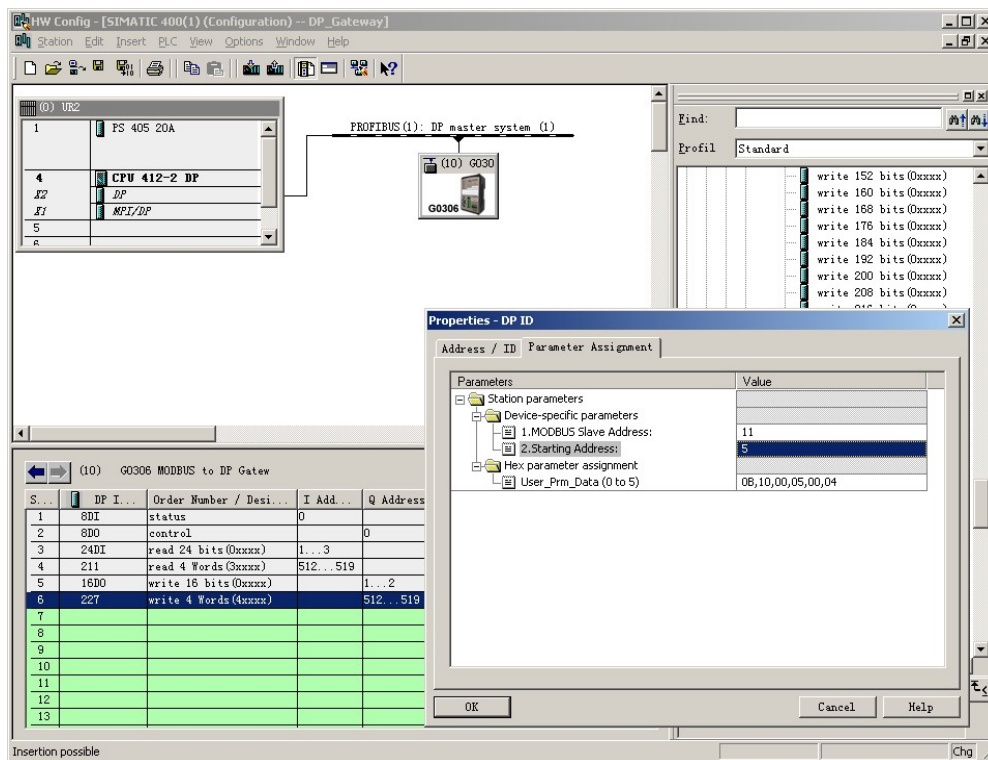

Figure 26 Configure user parameters of the "write 4 Words(4xxxx)" module
**b) Configure the user parameters of the "write 4 Words(4xxxx)" module, as shown in Figure 26:**
"1.MODBUS Slave Address:" ⇒ Type in Modbus slave address 11, as shown in Figure 26.
"2.Starting Address:" ⇒ Type in the starting address 0006 of register 0xxxx to be written, and set the address to 5 ⇒ "OK", Figure 26.